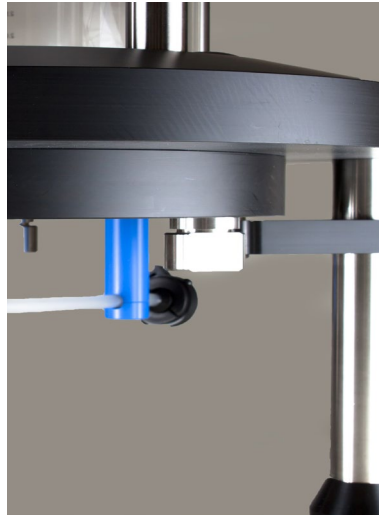

Figure 15: Photograph showing position of the support blocks before the fixing bolts are completely removed
3. Identify the fixed end support blocks that are located on the column support legs. Swing these blocks so that they support the flow cell. These will support the flow cell when the fixing bolts are removed. See Figure 15.